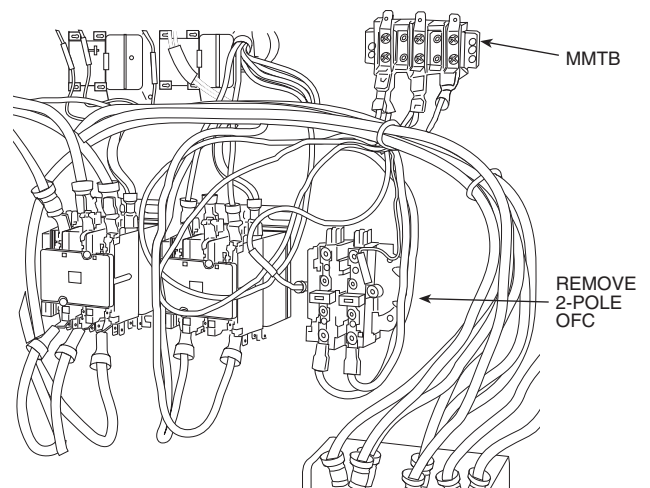

Fig. 5 — 2-Pole OFC
4. Remove 2-pole Outdoor Fan Contactor (OFC) as shown in Fig. 5.